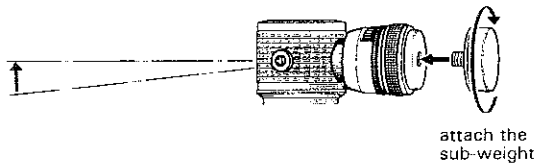

Fig. 21
- If the weight of the plug-in head (head-shell with cartridge) exceeds 21 g (when a cartridge heavier than 9 g is used together with the supplied head-shell), attach the sub-weight at the rear of the main weight as shown in Fig. 21 and adjust the stylus pressure. In this case, the counterweight scale is changed. Use the following conversion table to obtain the specified stylus pressure